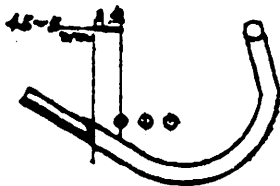
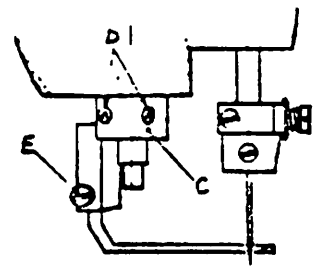

FIG 21
FIG 23
Please set the position of the spreader so that the distance between the center of left needle and the point A of spreader may be measured 4.5mm-5.0mm as indicated in Fig. 21 and that the clearance of the base of spreader and the surface of needle plate also can be taken 8.0mm-9.0mm at the same time, when the spreader is at its upper end position.
1. Loosen the spreader screw E in Fig. 23.
2. Please operate the screw E and tighten the screw E when the distance from the base of spreader to the surface of needle plate is measured 8.0mm-9.0mm as indicated in Fig. 23.
3. Turning the pulley, by loosening the upper covering bracket D in Fig. 23, please adjust the distance for 4.5mm-5.0mm between the center of left needle and the point A of spreader as indicated in Fig. 21.